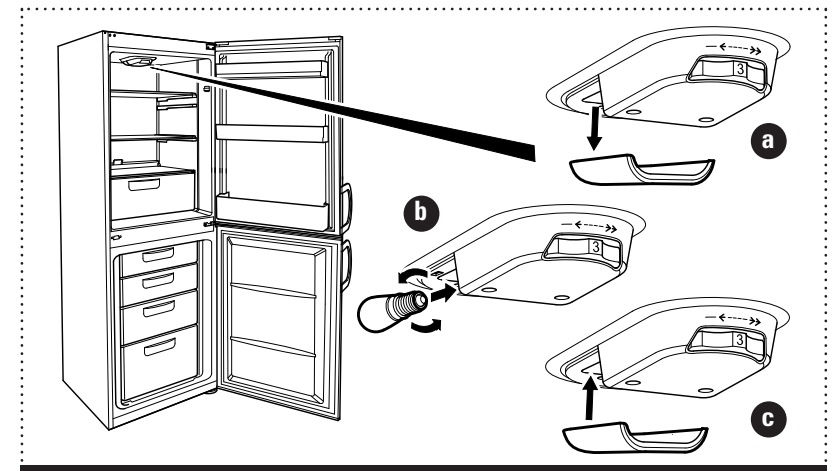

Figure 8
- 2 Apply light pressure to both sides of the light cover and carefully pull the cover away. (Figure 8 **a**).
- 3 Unscrew the bulb by turning it clockwise, and remove (Figure 8 **b**).
- 5 Re-fit the light cover, by pushing it upwards until it clicks back into position (Figure 8 **c**).